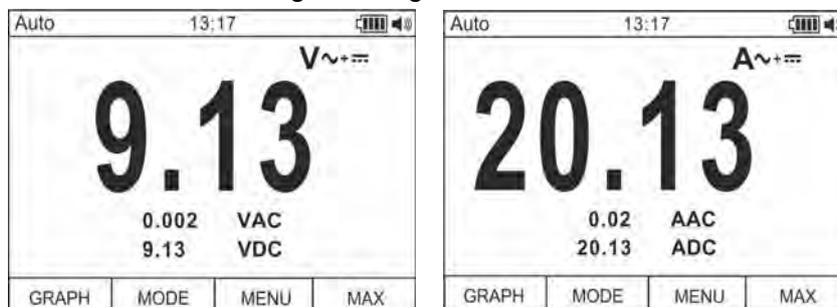

Fig. 3: AC+DC voltage or current measurement description
2. Press the **F2** key selecting the “ $V\sim + \equiv$ ” or “ $A\sim + \equiv$ ” modes (see Fig. 3)